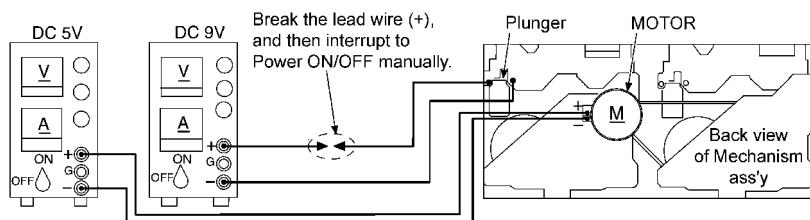

Fig. 1
- Apply DC 5V to the MOTOR. (MOTOR will be rotated) (Refer to Fig. 1)
- Apply DC 9V to the plunger, and then operate it by switching power ON/OFF. (Power: +PL, -PL) (Refer to Fig. 1)